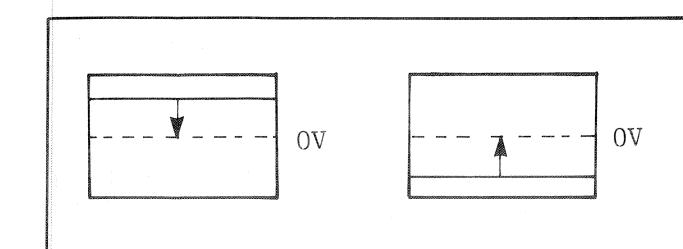

Fig. 30
- (1) Set oscilloscope V gain at maximum.
- (2) Set TRIG MODE to MAN (Manual).
- (3) Adjust DCO LFO OFFSET VR3 so that the horizontal line rests on the GND potential. (Fig. 30)